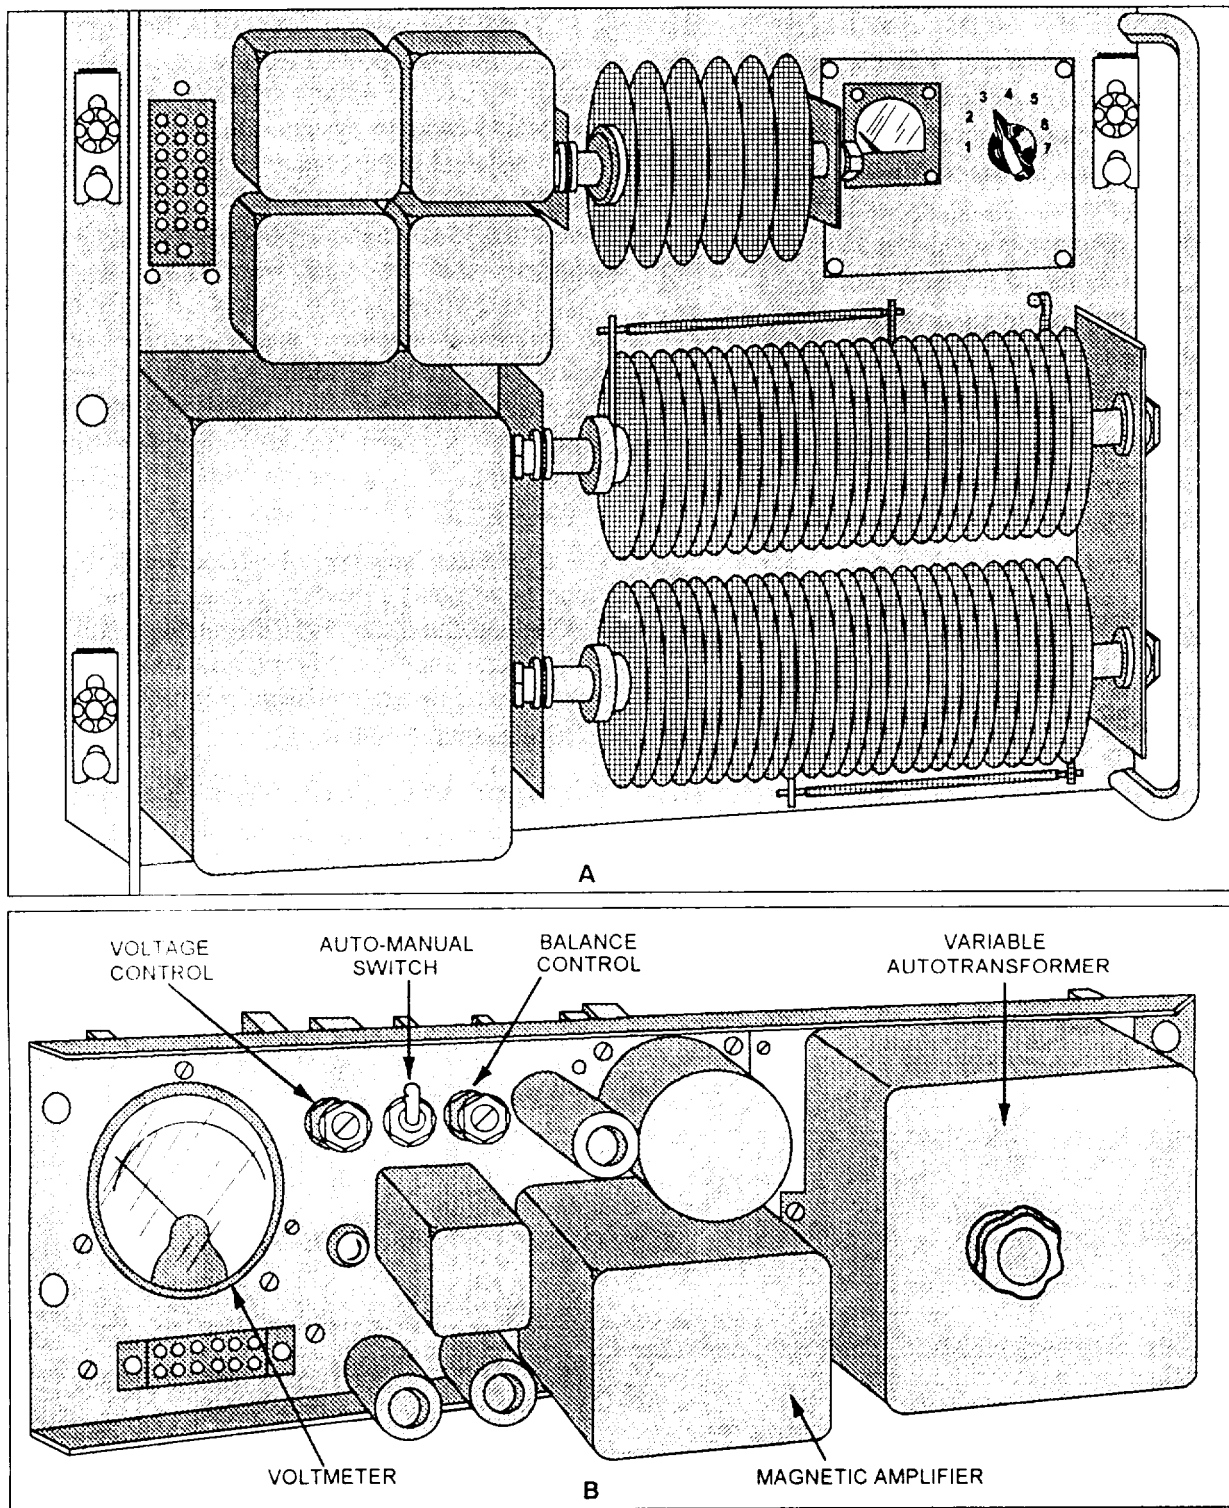

Figure 4-25.—A. Power supply. B. Mk 19 voltage regulator.
**DC POWER SUPPLY.**— Below the follow-up amplifiers is the dc power supply unit (fig. 4-25, view A) containing the power supply component (metallic rectifiers, filters, and so forth), a monitoring meter, and an associated selector switch. The unit operates from the 115-volt, 4(X)-HZ, 3-phase supply and furnishes all dc voltages required for the operation of the various amplifiers and relays in the system.
**VOLTAGE REGULATOR.**— Because a supply voltage fluctuation even as low as 2 volts can cause compass errors, a voltage regulator was developed for the Mk 19 Mod 3A system. This regulator is designed to be installed in the bottom of the control cabinet and provides an output of 115 volts, 400 Hz ac regulated within  $\pm 0.75$  volt for an input of 115 volts  $\pm 7$  volts. The regulator unit (fig. 4-25, view B) is a single chassis containing a diode rectifier circuit, a dc reference circuit, a differential amplifier, and a corrector circuit. The corrector circuit includes a magnetic amplifier, a servomotor and gear train, a variable autotransformer, and a buck-boost transformer. The buck-boost transformer aids or opposes the line voltage with a voltage supplied from the autotransformer.